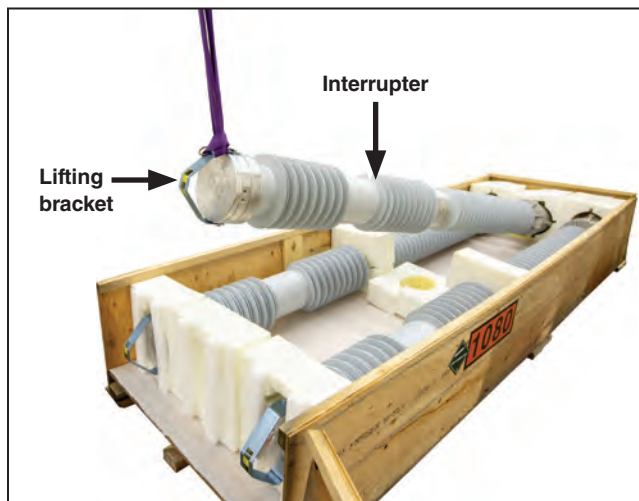
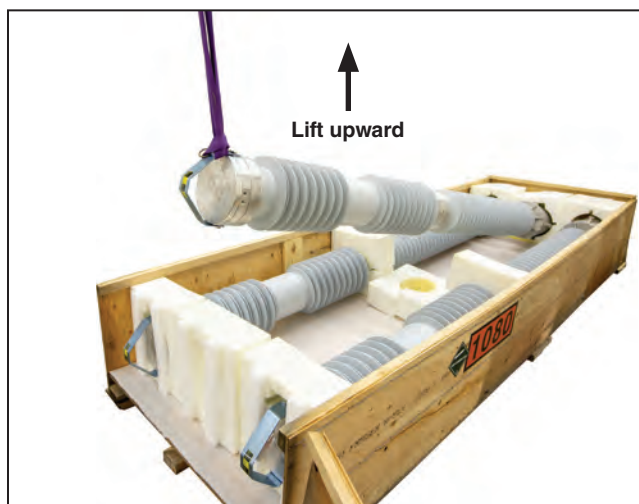
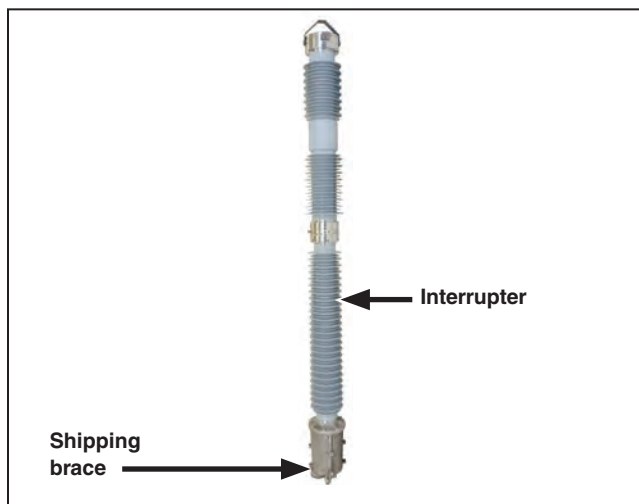

Figure 13. Lift the interrupter only by the lifting bracket.
Figure 14. Lift the interrupter carefully upward.
Figure 15. The interrupter with wrappings removed.
- (b) Carefully raise the interrupter upward. The foam wrappings around the top, mid-section, and base should have come off as the interrupter is being lifted. Remove these wrappings if they do not come off by themselves. Do not remove the shipping brace at this time. See Figure 13, Figure 14, and Figure 15.